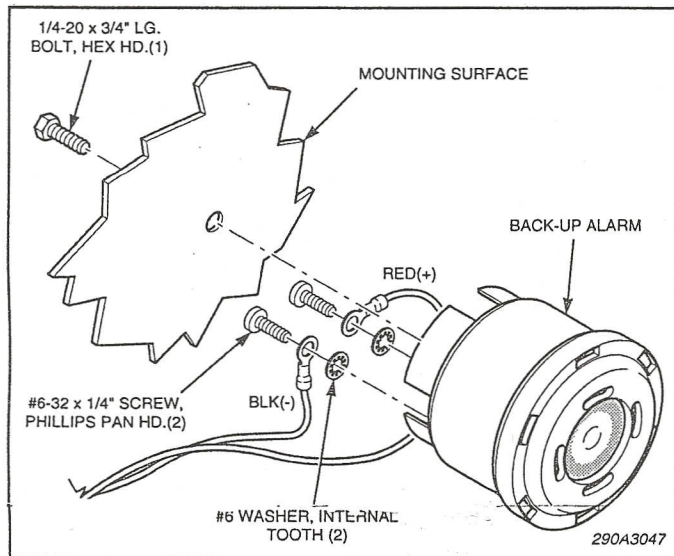

Figure 2.
2. Surface Mounting (see figure 2).